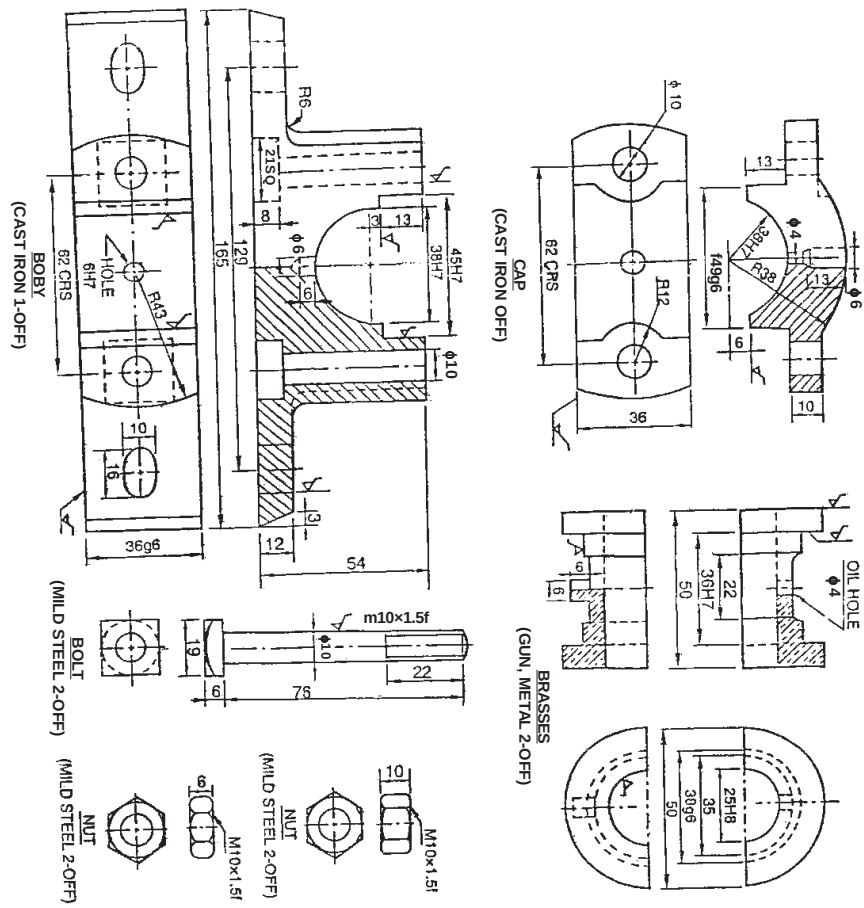

Figure 1
3. Assemble all the parts of pedestal bearing and draw front view in full in section and top view. Also mention bill of material. Details are given in fig.1.